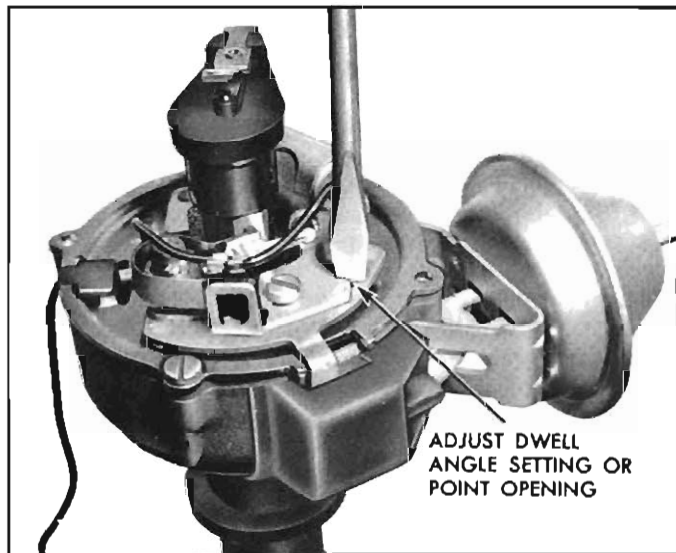

Fig. 1—Point Adjustment
7. Adjust points to .019" new or .016" used (fig. 1) and lock stationary point. Check arm spring tension.